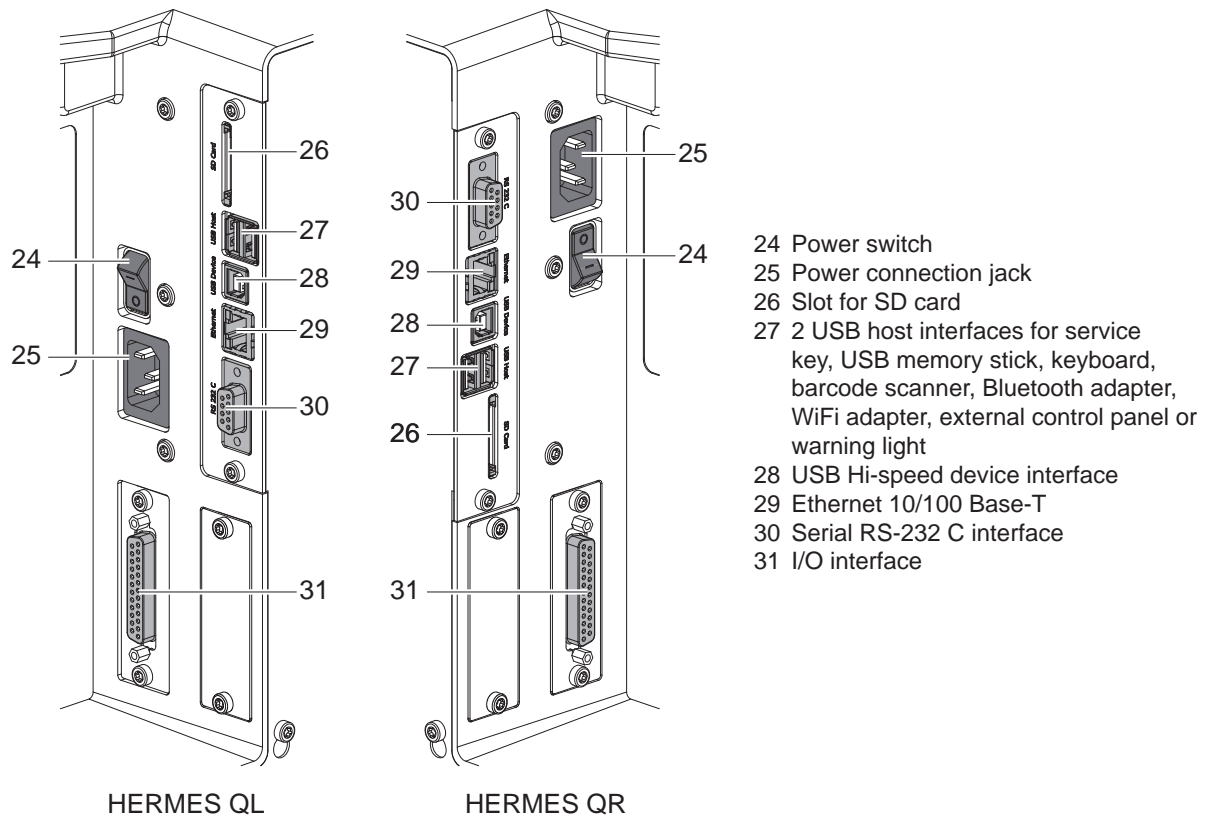

Figure 6 Connections
2. Plug the power cable into the power connection socket (25 / Figure 6).
- Switch the printer on at the power switch (24 / Figure 6).